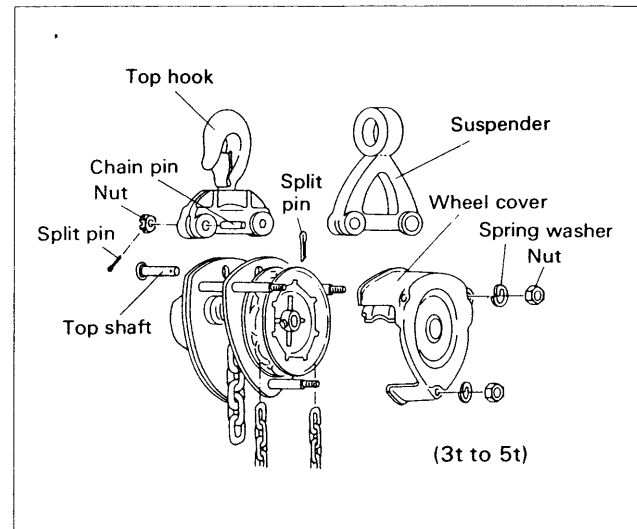

Fig. 3
2) For 3 or 5 ton capacity. (Refer to Fig. 3.)
- Straighten the bent split pin, remove the slotted nuts, pull out the chain pins, and then remove the load chain from the top hook, in Fig. 3.